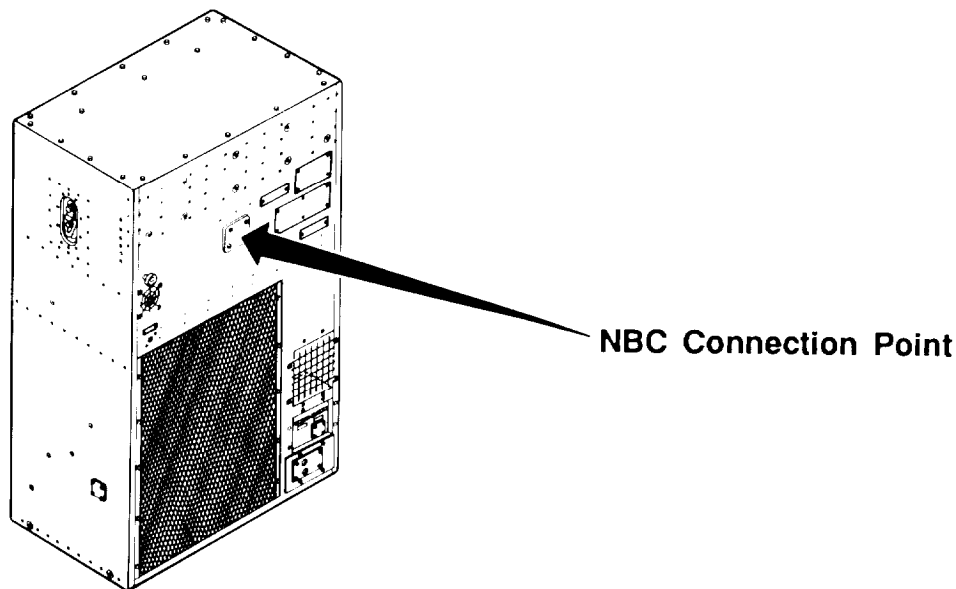

Figure 2-5. Nuclear, Biological, and Chemical (NBC) Connection.
a. NBC (nuclear, biological, chemical). This unit has provisions for connection to an external NBC filtering source. The location of the NBC connection point is shown in Figure 2-5. Should it be necessary to operate in conditions requiring use of NBC filtration equipment, see specific instructions for your shelter or facility installation. For additional general NBC information, refer to MIL-HDBK-116, Environmental Control of Small Shelters. The following are general suggestions for operation in NBC hazards and do not apply if they conflict with instructions for your shelter or facility installation.
(1) The fresh air damper should be closed, the opening should be covered with duct tape (Appendix E, item 22) and sealed air tight.
(2) The conditioned air inlet louvers should be adjusted (partially or completely) closed in conjunction with the NBC filter intake volume. This will cause a more positive pressure on inside of shelter or enclosure and keep air from being drawn.